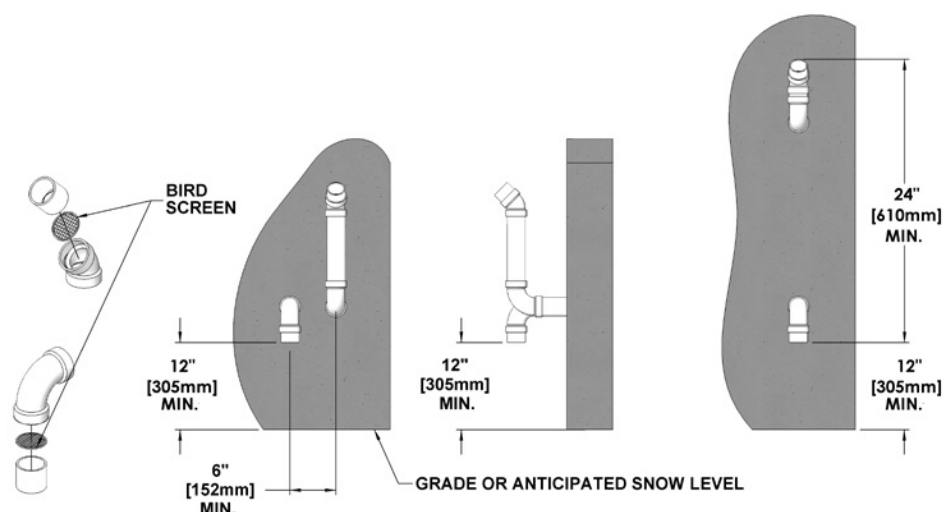

Figure 5: Sidewall vent termination - direct vent applications
- The elevation of both pipes can be raised in "periscope style" after passing through the wall, then configured as in *Figure 5*, to gain required clearance.
It is extremely important to maintain at least the minimum separation of exhaust vent termination from boiler intake air as illustrated in figures 5, and 9. Failure to do so can result in a dangerous situation where exhaust gasses are re-ingested with combustion air. Damage to the boiler can result from a failure to maintain these separations. Third party vent termination kits and concentric wall penetration kits that do not maintain these minimum separations shall **NOT** be used. Improper installation will void the warranty. Do not use proprietary *InnoFlue* or *PolyPro* PPs terminals available without specific approval from IBC.